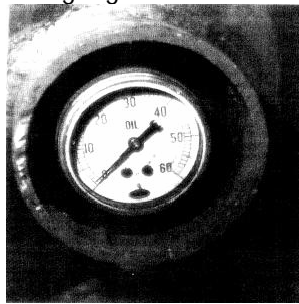

Fig. 1-5 Oil pressure gauge
2. Be sure that the oil pressure gauge indicates between 5 and 40 psi (Figure 1-5)